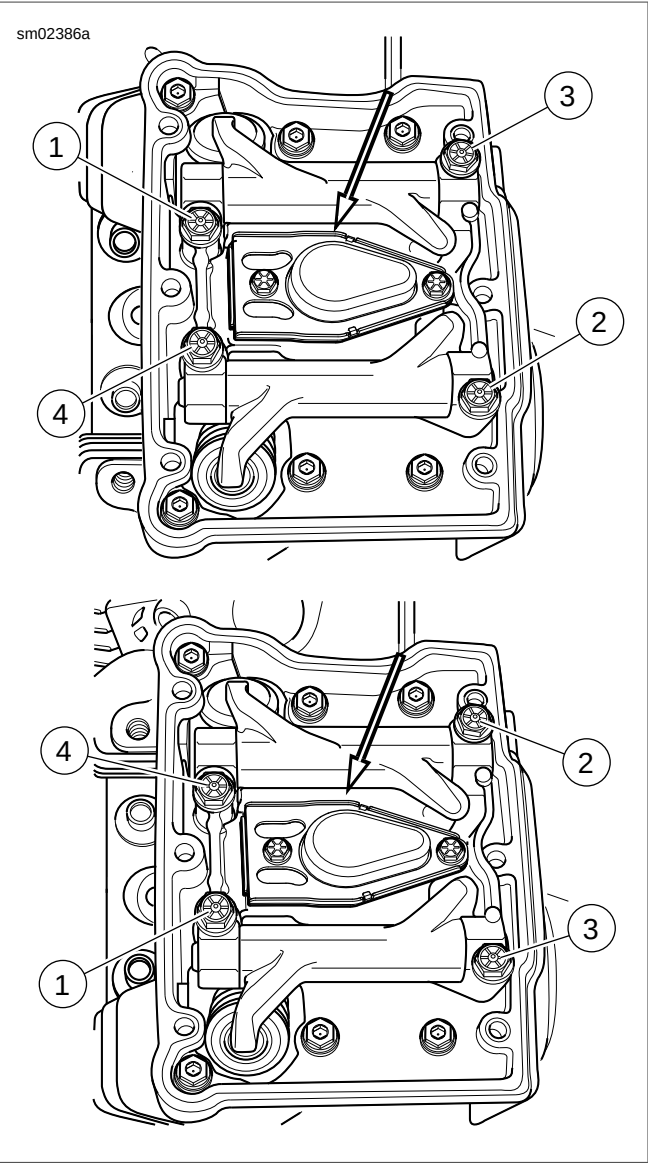

Figure 3-86. Rocker Arm Support Screw Sequence
2. See Figure 3-86. Place the rocker arm support plate assembly into the rocker housing and loosely install four rocker arm support plate bolts with flat washers.